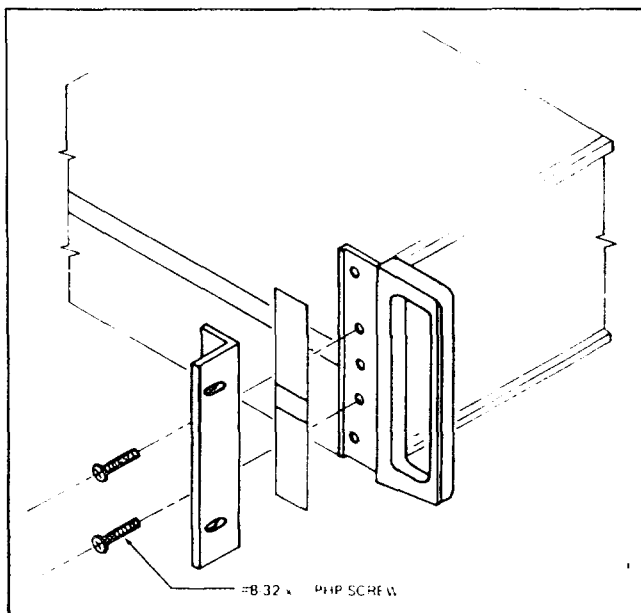

Figure 600-1. Rack Mounting Kit
2. Remove the front corner screws which match the hole pattern in the rack mounting ears (see Figure 600-1).